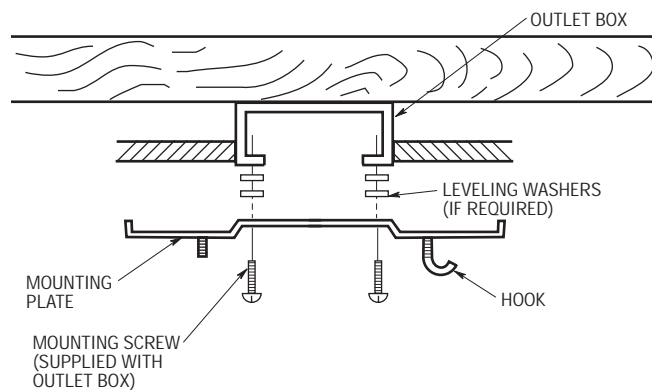
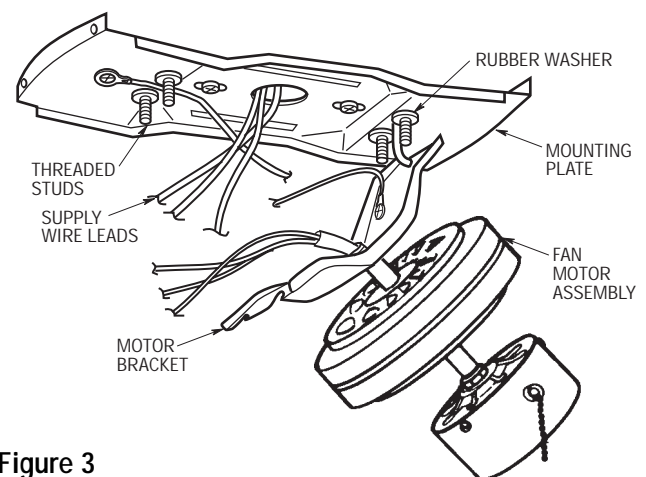

Figure 2
Figure 3
1. Securely attach the mounting plate to the outlet box (Figure 2) using two screws (supplied with outlet box). Pull the black, white and ground wires out of the outlet box through the hole in the mounting plate and lay them to the side as shown in Figure 3.
NOTE: For better fan performance make sure the mounting plate is level. Additional washers (not included) may be needed to insert between the electrical box and mounting plate (Figure 2).
2. Carefully lift the fan motor assembly and engage the slot in the motor bracket with the hook on the mounting plate so that it is securely suspended (Figure 3). Then connect wiring to your fan according to section "HOW TO WIRE YOUR CEILING FAN".